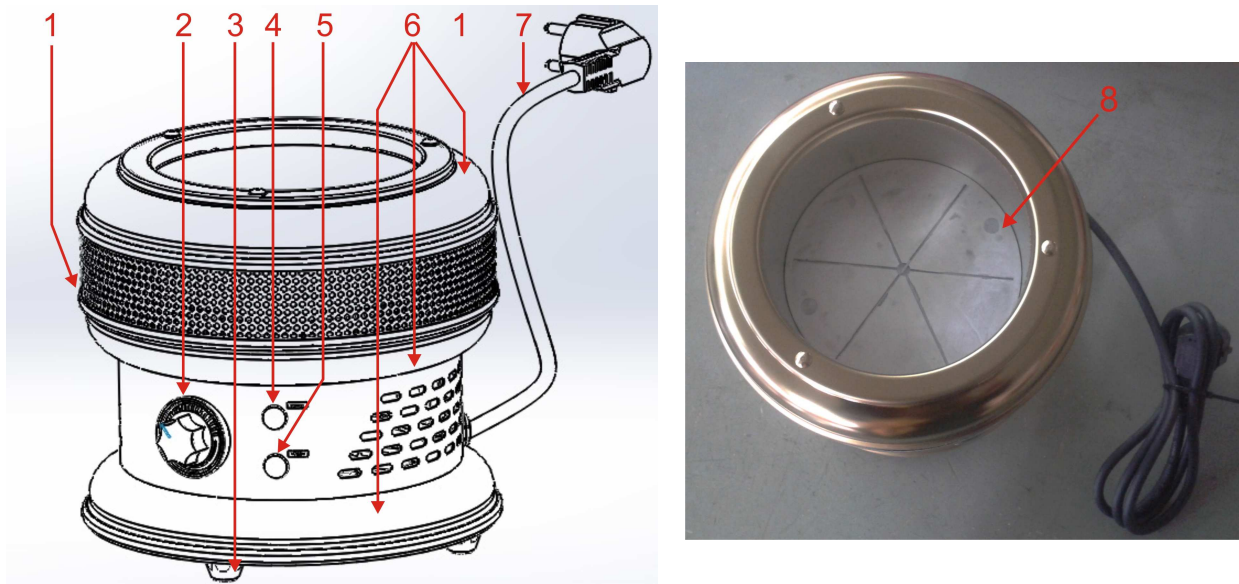

Figure 2: Parts of the appliance
- Open the bag containing the sand and spread it evenly on the heating plate (8 Figure 2).
- Connect the power cord to the socket (7 figure 2).
- Turn the switch temperature regulator clockwise till the end of the graduations (2 Figure 2).
- Ensure that both lamps for the power and the heating element switch on (**4 & 5 Figure 2**).